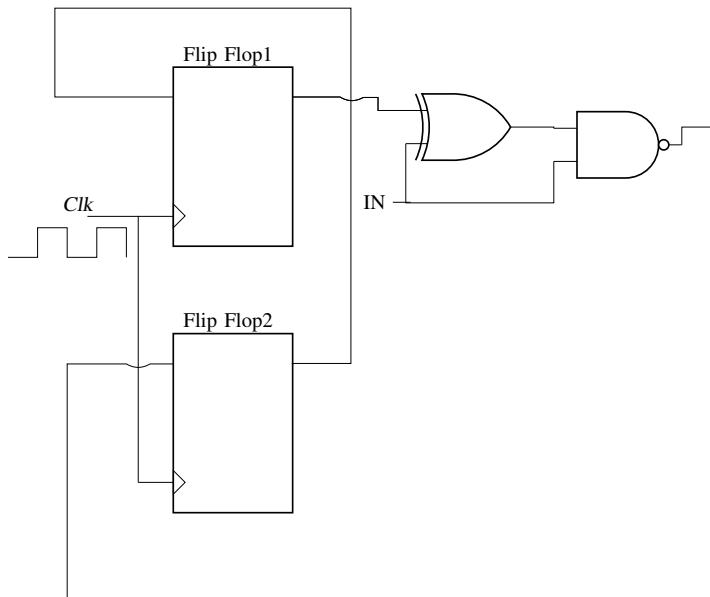

Fig. 6.11
6. Find the states in Fig. 6.11.